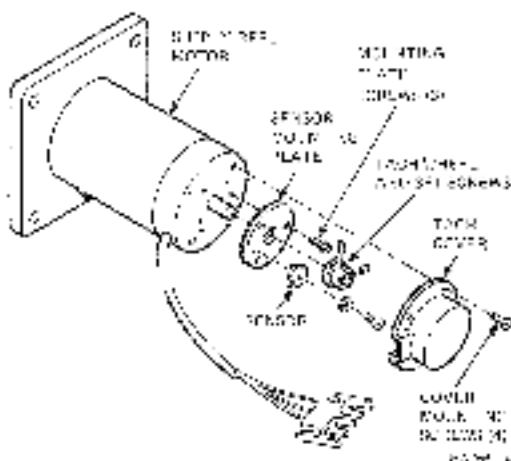

Figure 4-9 Supply Reel Motor Assembly
5. Remove four mounting screws and tach cover from motor (Figure 4-9).
Continue with motor disassembly and removal of on-line tachometer (Figure 4-9).